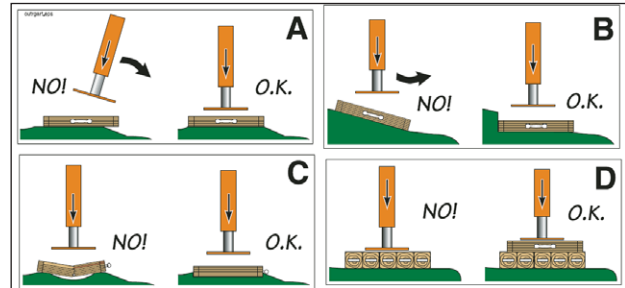

Figure 7.14: Incorrect and correct use of stabilizer support pads/plates
- Stabilizer legs should not be set on uneven or slippery surfaces (Figure 7.14, A & B).
- Most stabilizers require additional support pads and/or plates; refer to the manufacturer's operator's manual (Figure 7.14, C & D).